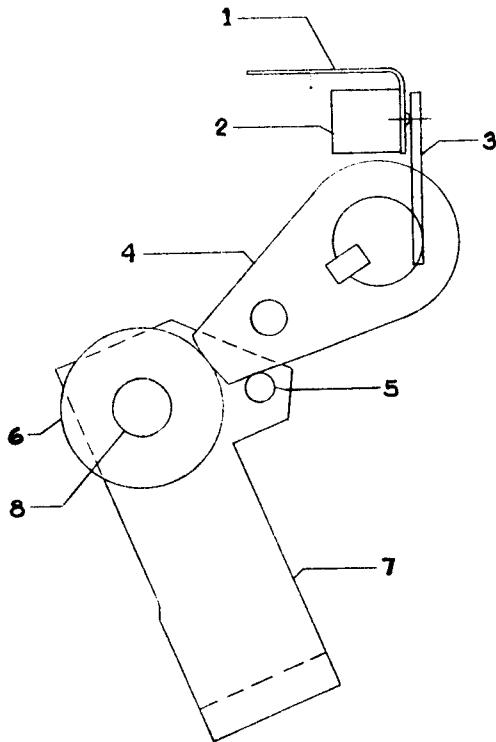

Figure 13. (0114C5320) Latch Checking Switch
Refer to Figure 13. Charge the closing springs sufficiently to reset the mechanism linkage. Rotate the trip latch (4) by pressing manual trip lever to open the latch checking switch (2). Allow the trip latch to reset slowly and determine the point at which the contacts are made by using a circuit continuity tester (light indicator, bell set, etc). The contacts of the latch checking switch should just make when the gap between the trip latch (4) and the stop pin (5) located on the latch roller link (7) is 1/16". There should be a minimum of 1/64" between the switch arm (3) and the switch support (1). To obtain adjustment of the latch checking switch, bend the latch checking switch arm (3).